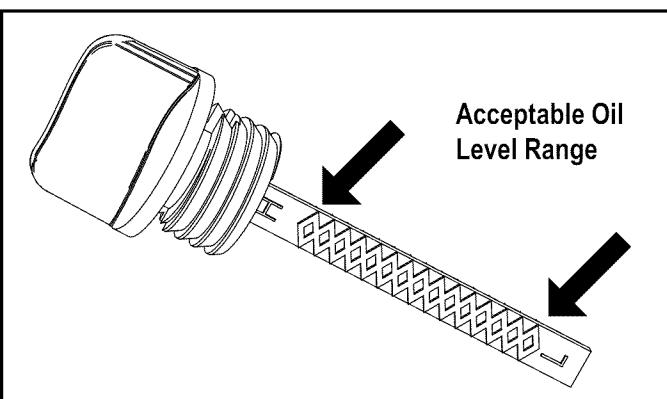

Figure 6-6. Dipstick
5. If level is low, fill until the oil level is between "L" and "H" on the dipstick (Figure 6-6).
- Remove oil fill cap (Figure 6-6).